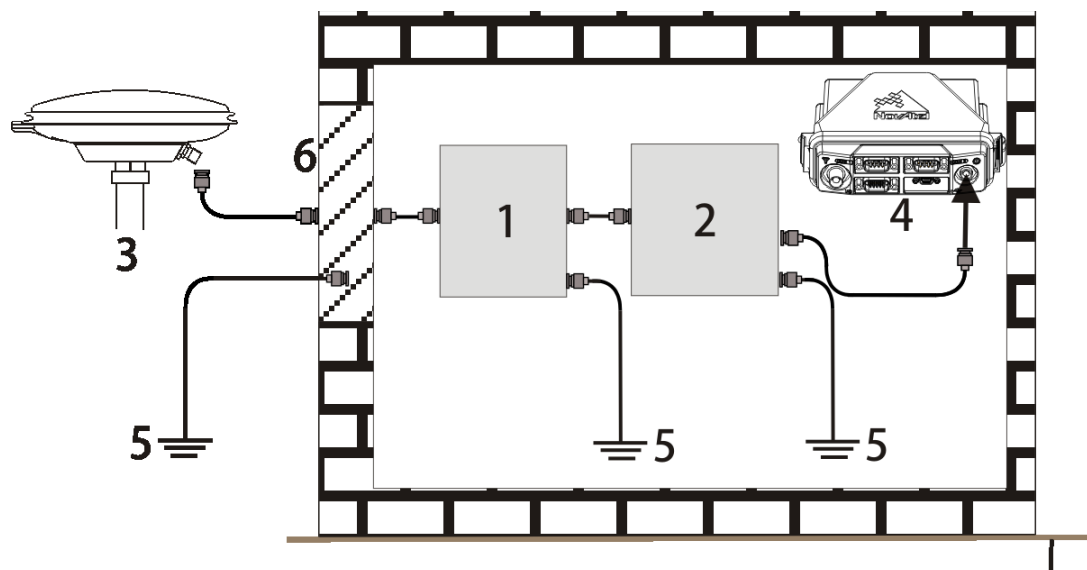

Figure 1: Primary and Secondary Lightning Protection
6. The primary and secondary lightning protections should be as close to the building's entrance as possible. Where feasible they should be mounted onto the grounding plate itself. See also *Figure 1, Primary and Secondary Lightning Protection* on the following page.